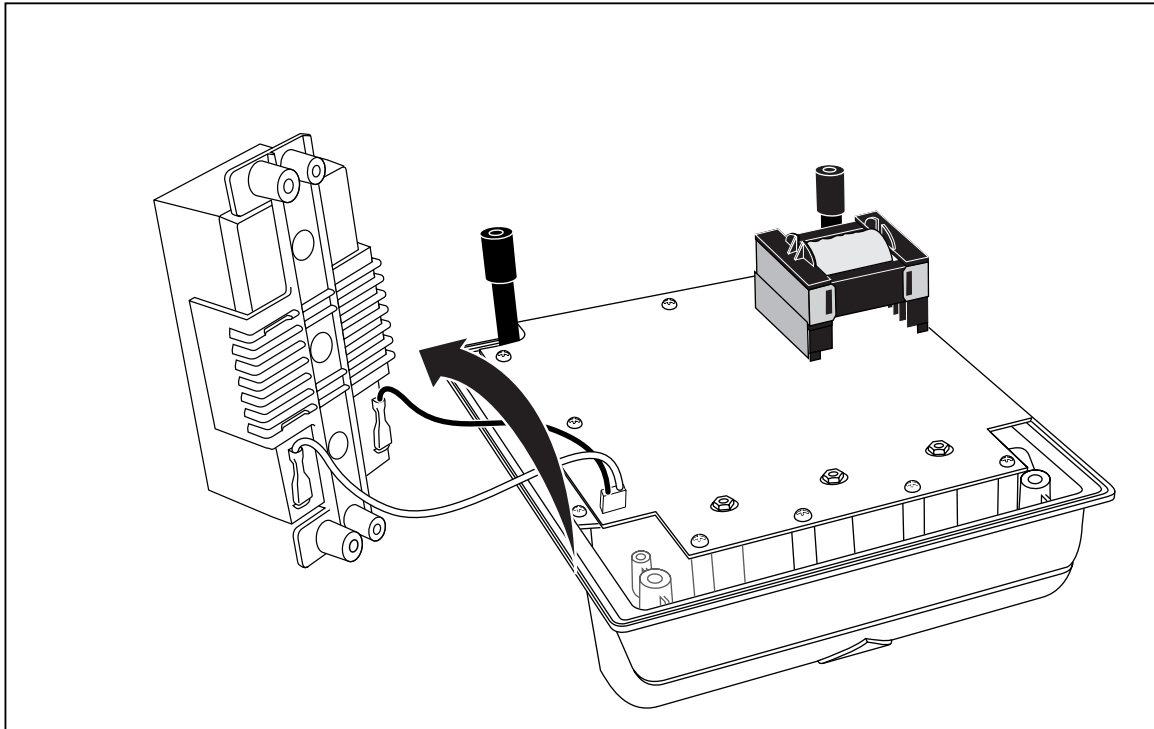

Figure 4. 1550B Disassembly
If the battery needs to be replaced, refer to Figure 4 and use the following procedure to replace the battery.
7. To gain access to the battery connections, rotate the battery as shown in Figure 4.